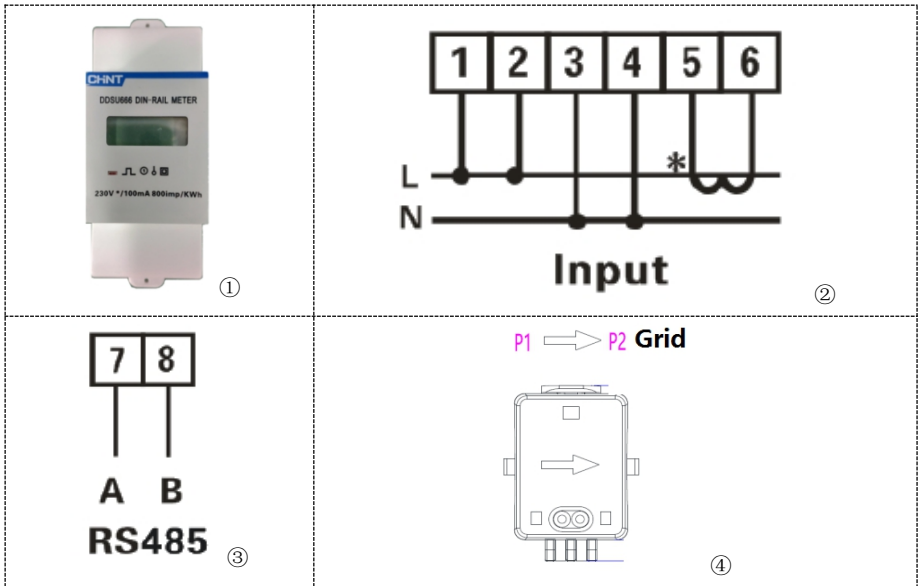

Fig. 4-16 Meter
PIN15 and PIN16 are used for meter communication, the electricity meter is shown in the fig. 4-16①, PIN15 and PIN16 correspond to 7,8 respectively on the electricity meter, as shown in Fig. 4-16③.
The connection mode is shown in Fig. 4-16②. The 1/2 and 3/4 on the electricity meter are connected to voltage signals L and N respectively. And the current needs to be connected through the current transformer, 5,6 correspond to the current transformer.
NOTE: The direction of the current transformer is shown in Fig. 4-16④.